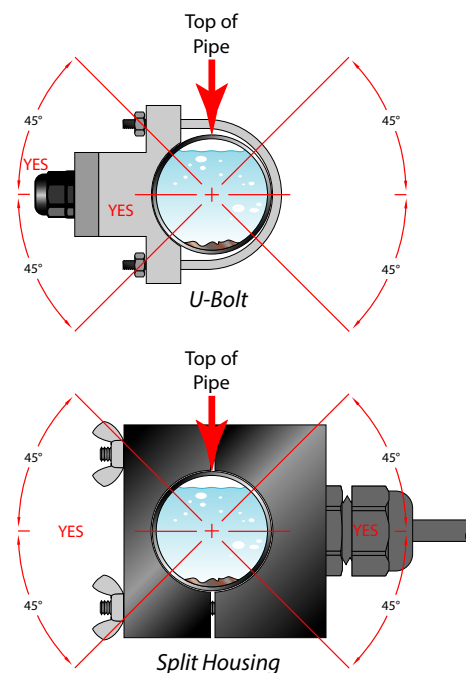

Figure 1: Transducer positioning
3. On horizontal pipes, mount the transducer in an orientation so the cable exits at ± 45 degrees from the side of the pipe. Do not mount with the cable exiting on either the top or bottom of the pipe. See *Figure 1 on page 1*. On vertical pipes, the orientation does not matter.